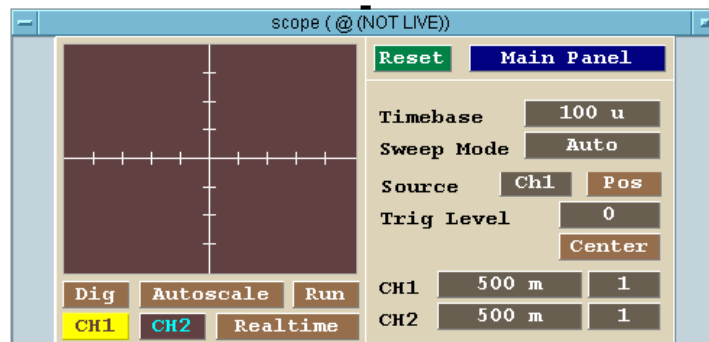

Figure 3-11. Selecting scope(@ (NOT LIVE))
3. Place the outline of the scope panel and click to place it. The display should look similar to Figure 3-11.